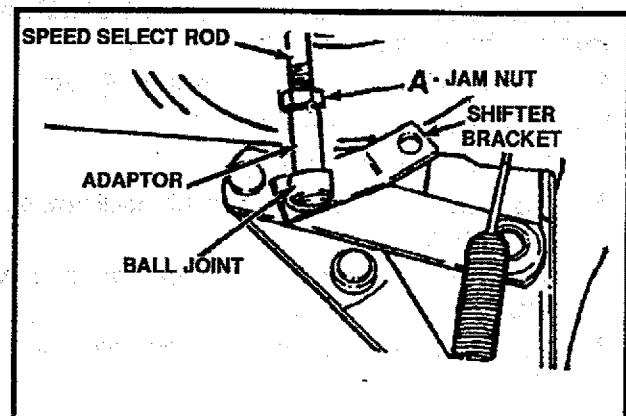

FIG. 33
- Loosen the jam nut "A" on the speed select rod. Remove the ball joint from the shifter bracket. Lengthen or shorten the rod by turning the adaptor to obtain the correct friction wheel position (See Fig. 33)